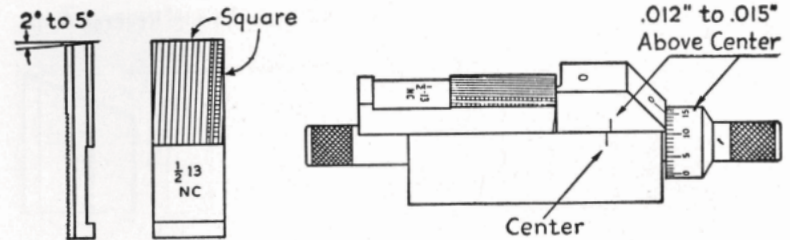

Figure 16
1. Set chaser squaring jig to grind square across until chaser measures .012" to .015" above center in gauge, as shown in figure 16.